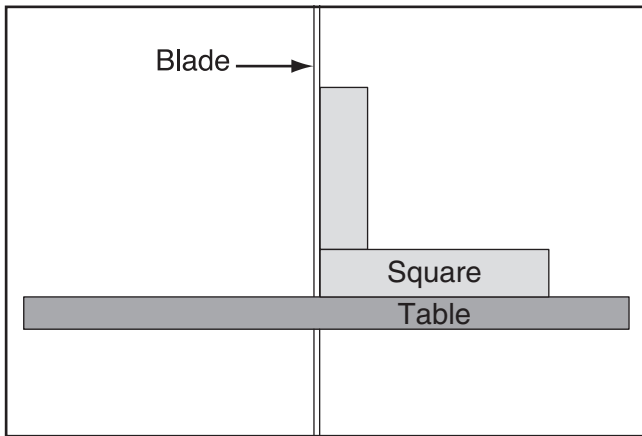

Figure 14. Using a square to adjust table perpendicular to the side of blade.
7. Completely raise upper blade guide assembly, then place machinist's square flat on table, against side of blade (see **Figure 14**).
8. Use adjustment knob to tilt table until square is flat against side of blade, as illustrated in **Figure 14**.